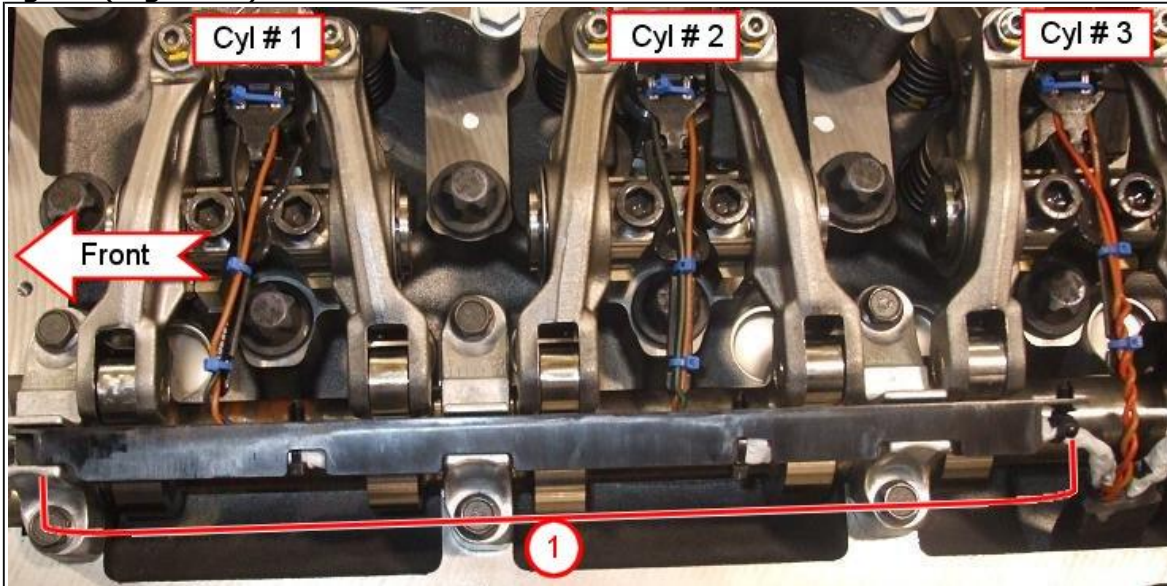
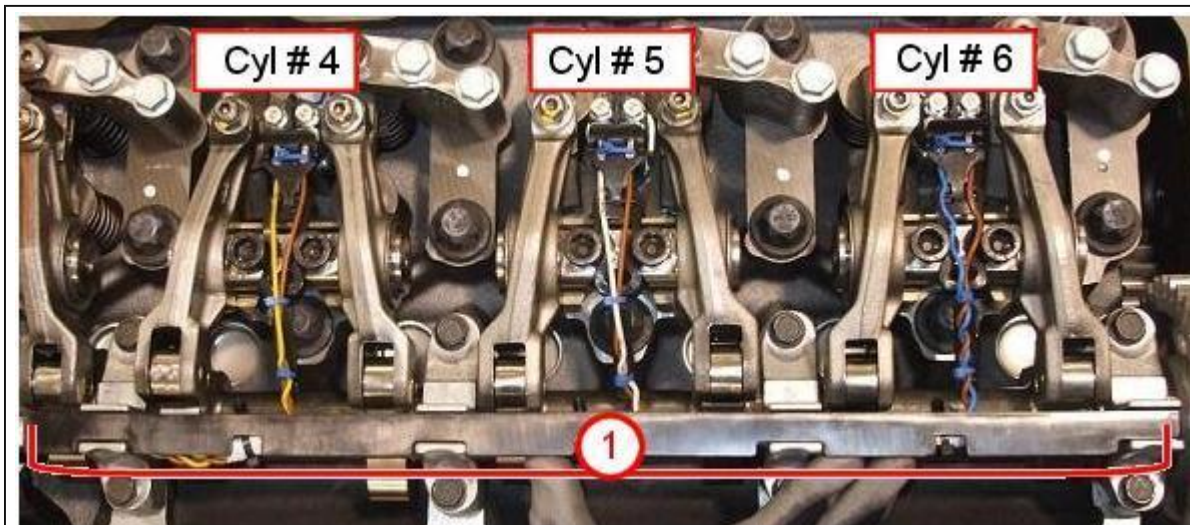

Figure 1, Short Plastic Tray on Cylinders 1 and 2.
Figure 2, Long Plastic Tray on Cylinders 4, 5 and 6.
1) Before installation of the injector harness, make sure the zip ties are securing the harness tightly to the plastic trays. The shorter of the two trays (Figure 1) goes towards the front of the engine and the longer tray goes towards the rear of the engine (Figure 2).